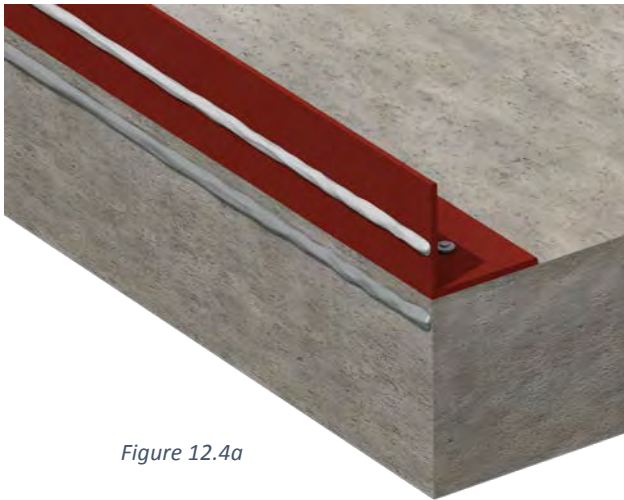
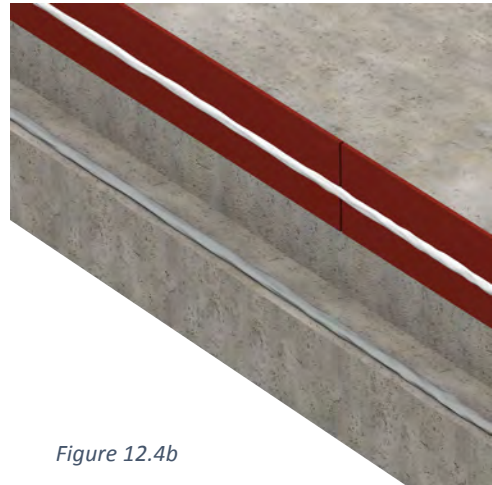

Figure 12.4a
Figure 12.4b
12.4 If base angle is already installed, place sealant as shown in figure 12.4a (overhung) and figure 12.4b (if notched slab).